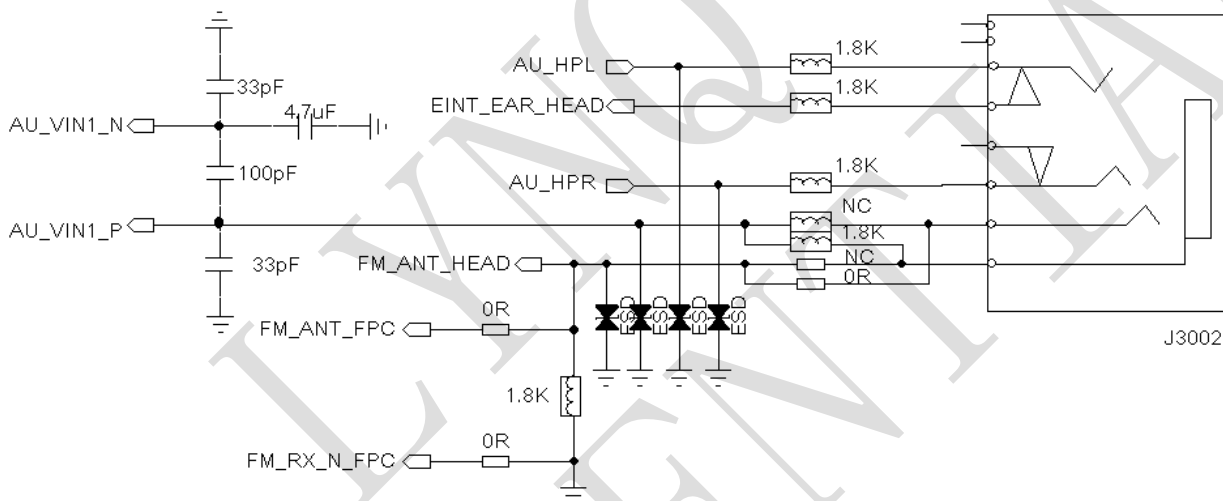

Figure 3-8 Headphone reference circuit
(3) Headphone reference circuit refers as figure 3-8.